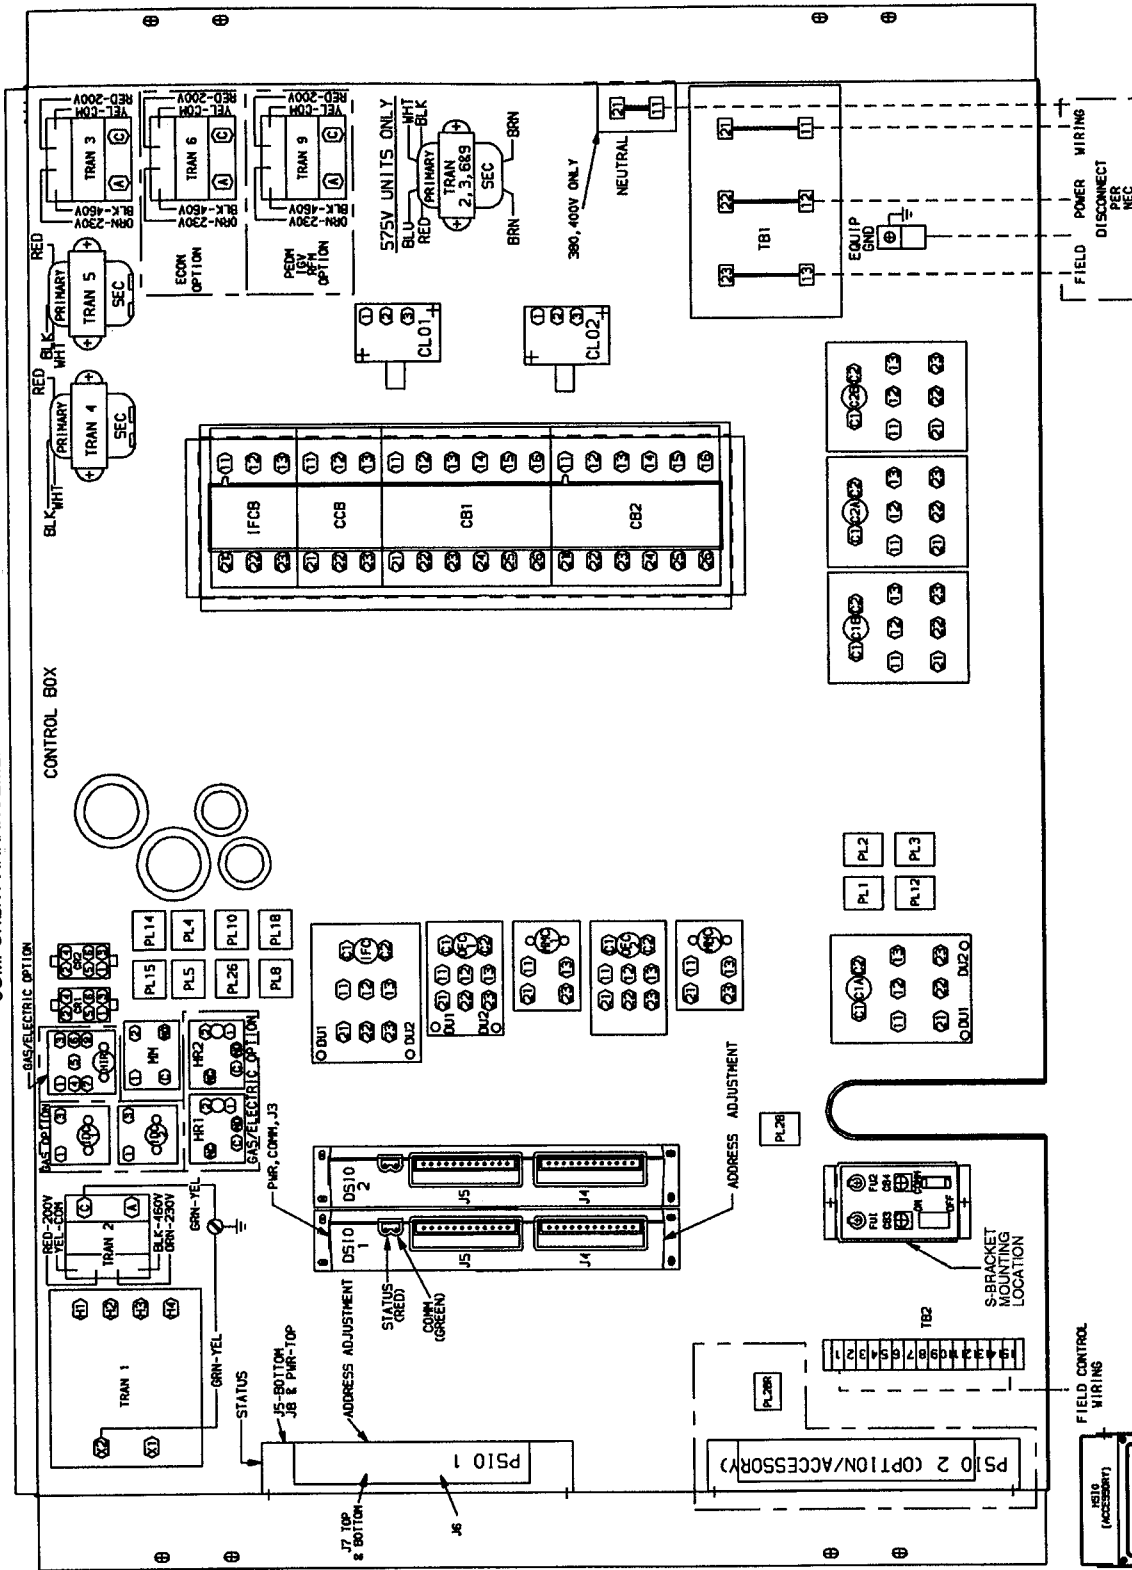

Fig. 2 — Major Control Components in Control Box (054-074 Shown)
**General** — The control system consists of the following components (see Fig. 2):
**NOTE:** The correct module address for the PSIO2 is 31 (S1 set at 3; S2 set at 1). See Fig. 2 for PSIO2 location.
**NOTE:** The correct module addresses for the DSIO1 and DSIO2 modules are 19 and 49, respectively. Set the switch closest to the mounting plate at 1 (DSIO1) or 4 (DSIO2), and the other switch at 9 (both modules). See Fig. 2 for DSIO locations.